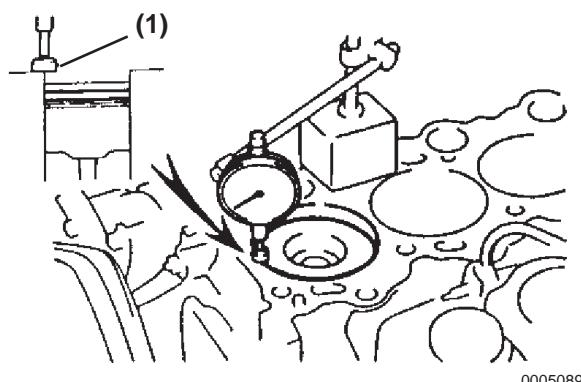

Figure 5-61
(Figure 5-61, (1)). Always check that the measuring tip is parallel to the cylinder block gasket mounting surface and the piston head before reading the dial indicator.